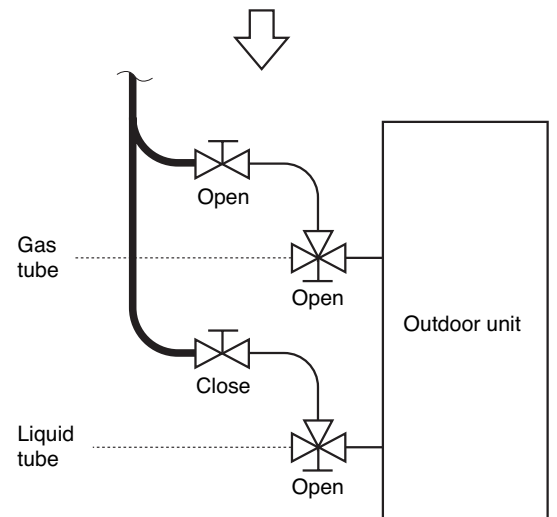

Fig. 7-6
- If the additional refrigerant charge amount cannot be charged at once, charge the remaining refrigerant in liquid form by using the gas tube service valve with the system in cooling operation mode at the time of test run. (Fig. 7-6)